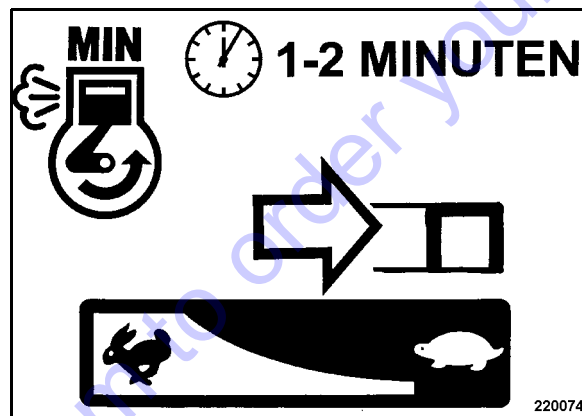

Fig. 29
- Move the throttle lever (Fig. 29) back to idle speed position.